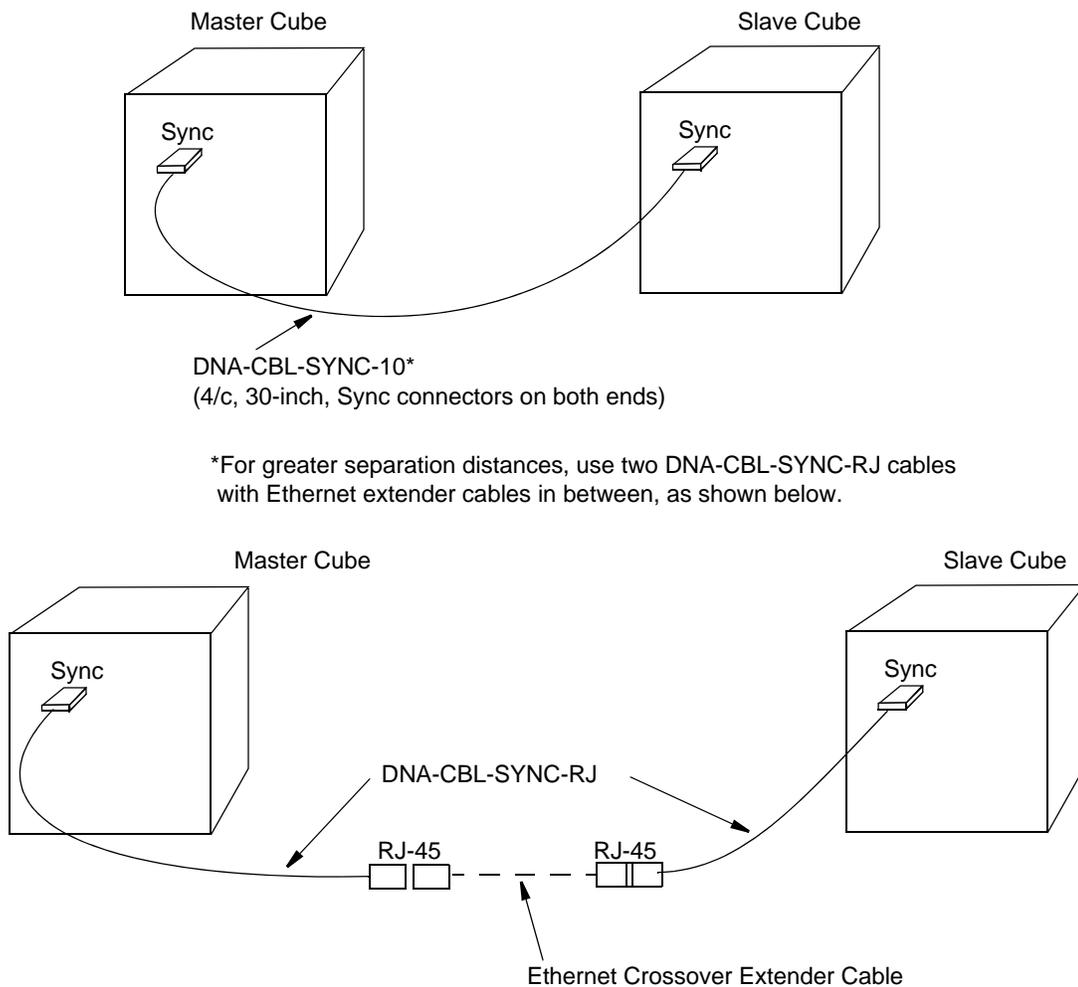

Figure B-1 Interconnection Diagram for 2-Cube Synchronization
B.2 Synchronizing a 2-Cube System Synchronizing a 2-Cube Logger system is easily accomplished by simply connecting a cable between the Sync connectors on the two Cubes as shown in **Figure B-1**. One Cube is designated as Master and the other as a Slave. The connecting cable, called DNA-CBL-SYNC-10, is a 30-inch 4-conductor cable with Sync connectors on both ends. For greater distances, use two DNA_CBL-SYNC-RJ cables plus an Ethernet crossover extender cable, as shown below.